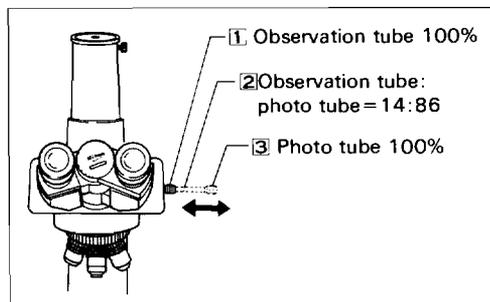

Fig. 7
(2) When using the trinocular eyepiece tube "T"
As shown in Fig. 7, when the change-over knob is pushed until it reaches the limit ①, 100% of the light enters the observation tube.